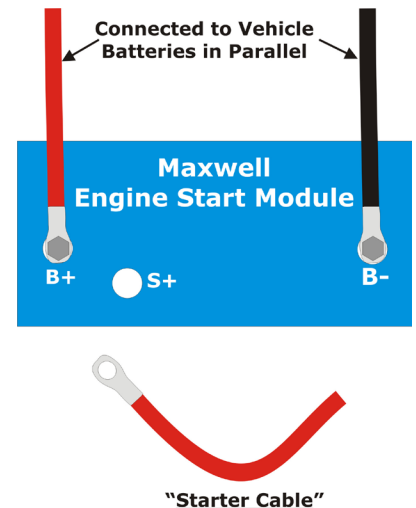

Figure 3
1. With the ESM fully charged, remove the Starter Cable connected to the S+ terminal on the ESM (see Figure 3).